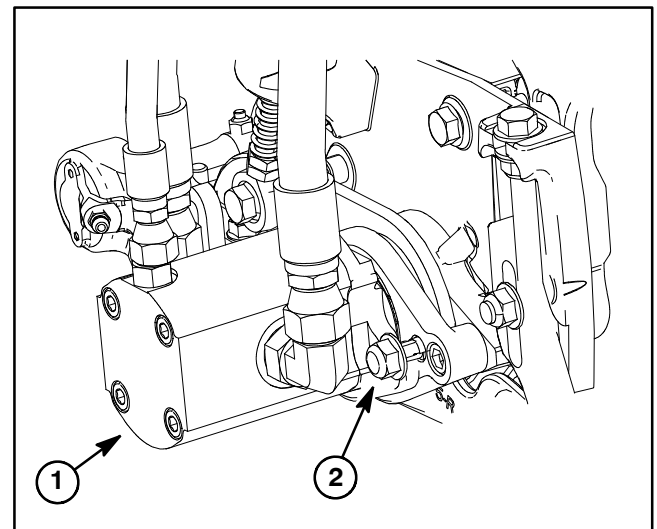

Figure 24
6. Loosen two (2) flange nuts or flange head screws that secure the hydraulic reel motor to the cutting unit side plate (Fig. 24). Rotate motor clockwise and remove motor from cutting unit.
4. Rotate the motor counter-clockwise until the motor flanges are encircling the cap screws in the side plates. While holding motor, tighten two (2) flange nuts or flange head screws to secure reel motor to cutting unit (Fig. 24).